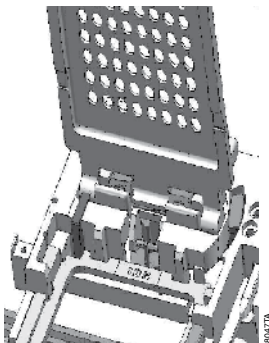

Figure 74. Aligning the Microplate Sample Tray Cover.
1. Align the stainless steel pins at a 90° angle to the Tray assembly just in front of the crescent-shaped tabs (Figure 74).